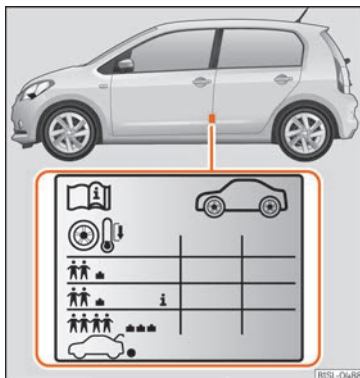

Fig. 166 Location of the tyre pressure sticker.
- Adjust tyre pressure to the load being carried by the vehicle » **Fig. 166**.
The values of the tyre pressure are shown on the sticker label located on the read frame of the front left door » **Fig. 166**.
Depending on the vehicle, tyre pressure can be adjusted to medium load to improve driving comfort (tyre pressure **i** » **Fig. 166**). When driving with comfort tyre pressure, energy consumption may increase slightly.
The tyre pressure must be adjusted according to the load the vehicle is carrying. If the vehicle is going to be fully loaded, increase the tyre pressure to the maximum load value shown on the sticker label » **Fig. 166**.
In the case of a minimised temporary spare wheel (125/70 R16 or 125/70 R18) inflate to a pressure of 4.2 bar as indicated on the tyre pressure label » **Fig. 166**.
ded tyre pressure is indicated on the label »» Fig. 166.
- Tyre pressure should be that indicated on the label when the tyres are cold at all times »» Fig. 166.